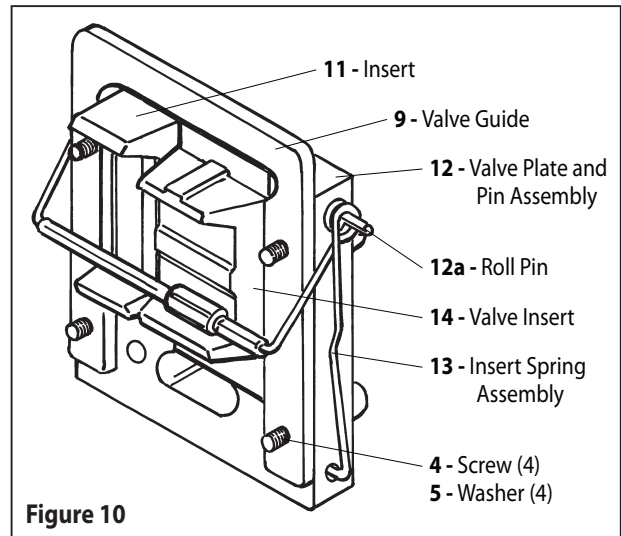

Figure 10
32. Push the assembled (38) adapter and (31) valve piston down thru the 90350 special installation tool until it bottoms.
34. Install (33) gland assembly over the (31) valve piston and push down, being careful to retain (34) seal in the "O" ring groove.
35. Align the two screw holes and secure (33) gland assembly to (19) head assembly with two (6) screws and two (7) lock washers.
36. Insert (13) insert spring assembly into the (19) head assembly, with the hooks down and the nylon roller toward (31) valve piston.
37. Apply grease to both (11 and 14) inserts and place them in position (see figure 10) with legs of insert toward (31) valve piston and the larger, (14) insert, located in front of the larger diameter nylon roller. Also, the nylon roller on the (13) insert spring assembly should be between the legs of both (11 and 14) inserts.
38. Apply grease to gasket side of (12) valve plate and put (15) gasket on (12) valve plate. To determine the correct side, the screw holes nearest the top and bottom of (12) valve plate are toward the exhaust port on the (19) head assembly. Also, the (12a) roll pins in (12) valve plate are at the top.
39. Hold the (11 and 14) inserts against the (31) valve piston
40. and slide the (15) gasket and (12) valve plate between the two inserts and (19) head assembly. Be sure the larger holes in the (12) valve plate are located in front of the larger or (14) insert. Also, be sure the pins are located at the top of the valve plate.
41. Hook the round coil in (13) insert spring assembly over the (12a) roll pins (see figure 10).
42. Hook the bottoms of the (13) insert spring assembly into the holes on the side of (12) valve plate (see figure 10).
43. Insert (9) valve guide against the face of (12) valve plate. The legs of (9) valve guide should be down, with the leg having the threaded hole nearest the bottom located nearest the exhaust port of the (19) head assembly.
44. Place (5) washer on each of the four (4) screws and insert into the provided holes and tighten evenly across the corners. NOTE: To ease the alignment of the holes, an "O" ring pick is helpful.
45. Install (10) gasket in (8) air motor cap and secure with six (3) screws.
46. Place (2) deflector on the exhaust port of (19) head assembly, with the opening down, and secure with four (1) screws.